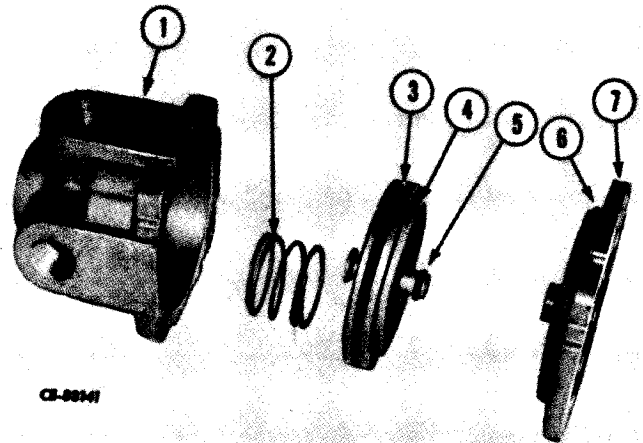

Figure 13-42
Install a new large "O" ring (3, Fig. 13-42) and a new small "O" ring (5) on secondary piston (4). Install new seal (6) on cover (7). Insert spring (2), piston and cover into lower body (1). Match previously made punch marks.